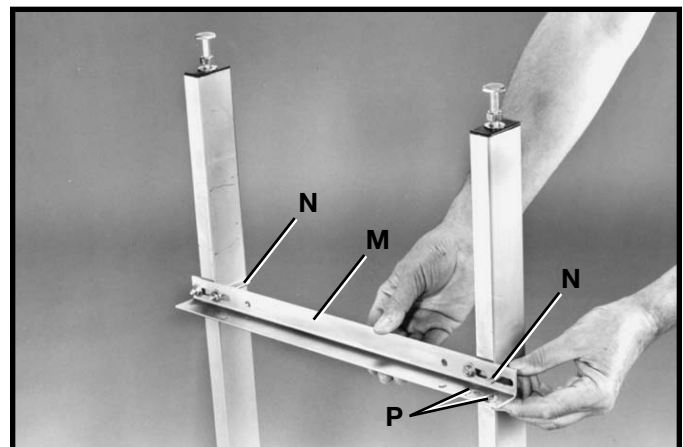

Fig. 53
5. Assemble shelf support bracket (M) Fig. 53, to the table legs (A) using two U-clamps (N), flat washers, and hex nuts (P). **NOTE:** Height adjustments to the bracket can be made later.